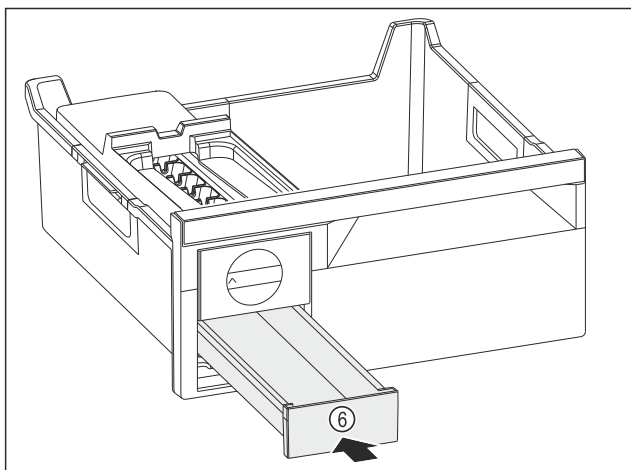

Fig. 92
- ▶ Insert the ice cube drawer Fig. 92 (6).